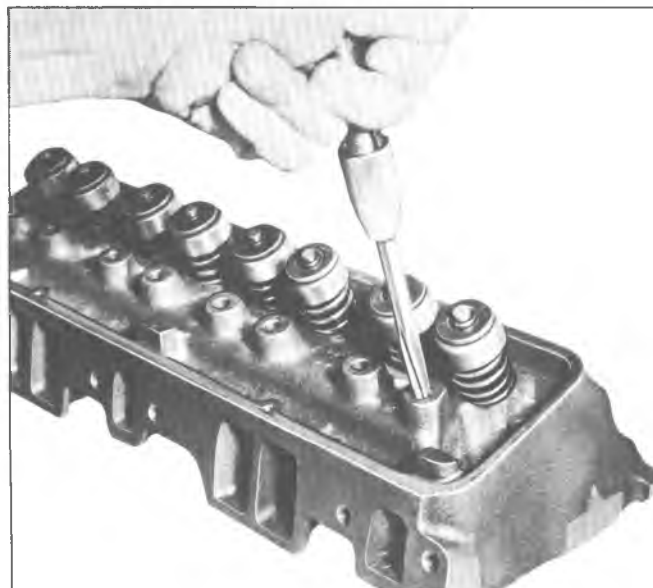

Fig. 20—Reaming Rocker Arm Stud Bore (In-Line and "Small V8")
2. Ream hole for oversize stud using Tool J-5715 for .003" oversize or Tool J-6036 for .013" oversize (fig. 20).